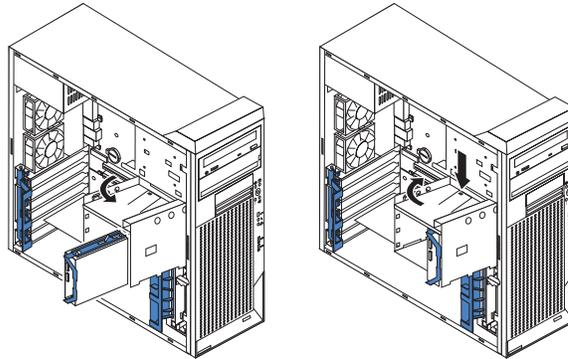

Figure 19. Rotating the drive cage
6. Grasp the drive cage and rotate the cage out of the computer until it locks into place with the drive-cage retention tab (see Figure 19 on page 97).
8. Grasp the drive cage and rotate the cage out of the computer until it locks into place with the drive-cage retention tab (see Figure 19).